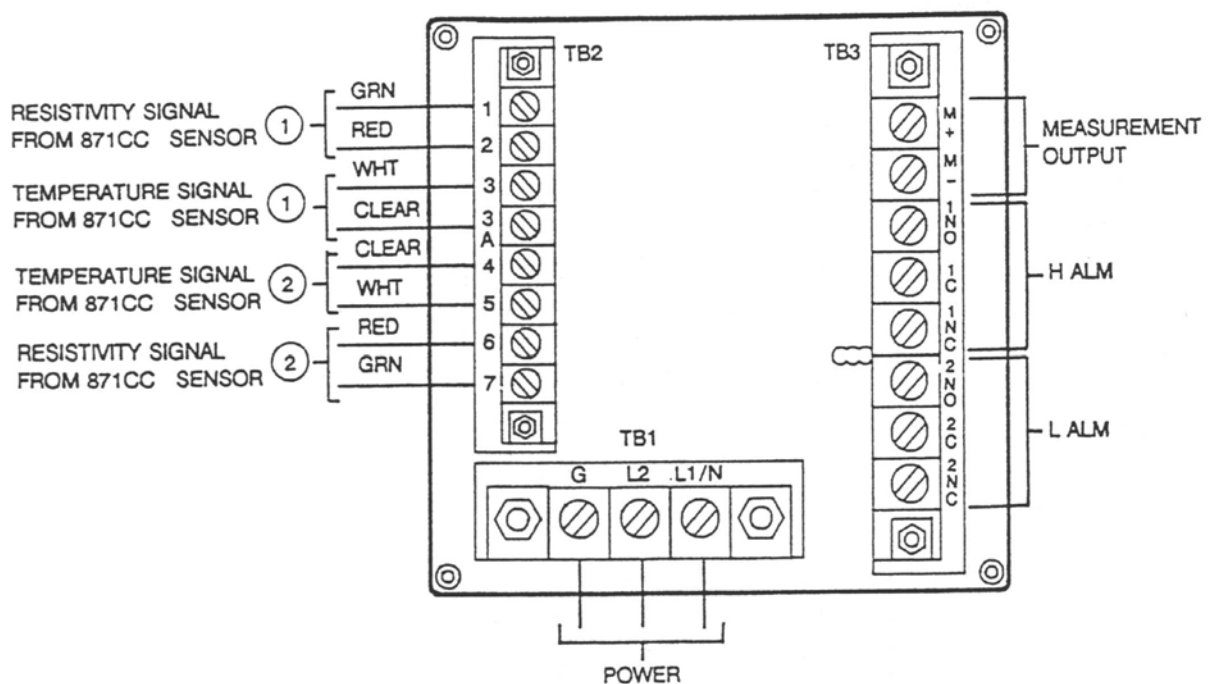

Figure 8. Rear Panel Wiring - Plastic Enclosure
2. Connect Hi and Lo alarm wires to TB3 as shown in Figure 8. Fail-safe operation requires connections be made between NC and C and the alarms to be configured active. Refer to “General Information Alarms”.
3. Connect wires from external circuit for analyzer measurement output to terminals TB3–1(+) and TB3–2(-). Refer to Figure 8.
5. Connect sensor wires to analyzer terminal block (TB2) in accordance with Figure 8. If a single sensor is used with this analyzer, it may be wired to either sensor input. See “User Notes” on page 89 for help with configuring the 873 Analyzer for single or dual sensor use.
6. Connect power wires to terminal block TB1 as shown in Figure 8.